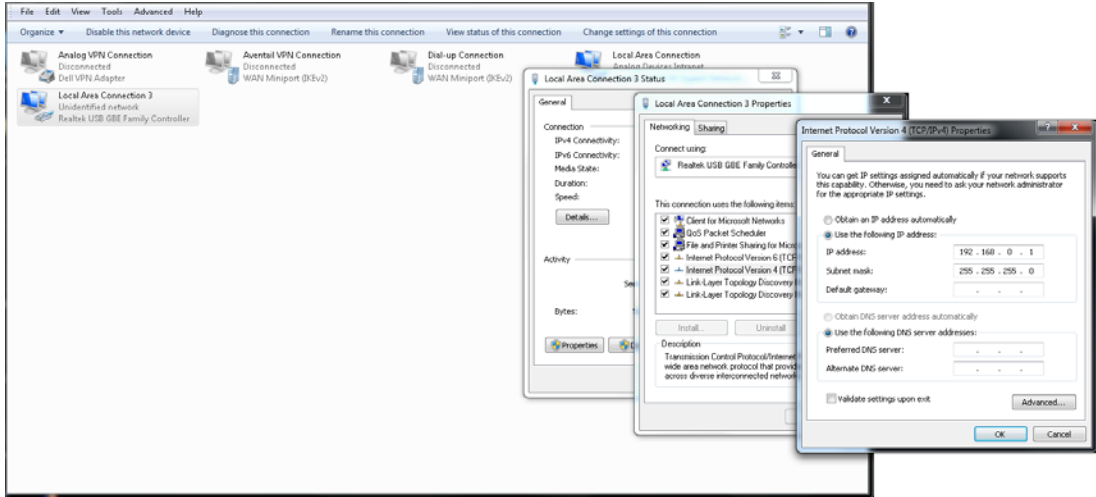

Figure 17. Internet Protocol Settings
6. Double-click the **Local Area Connection** icon that appears (Figure 17 shows **Local Area Connection 3** as an example).